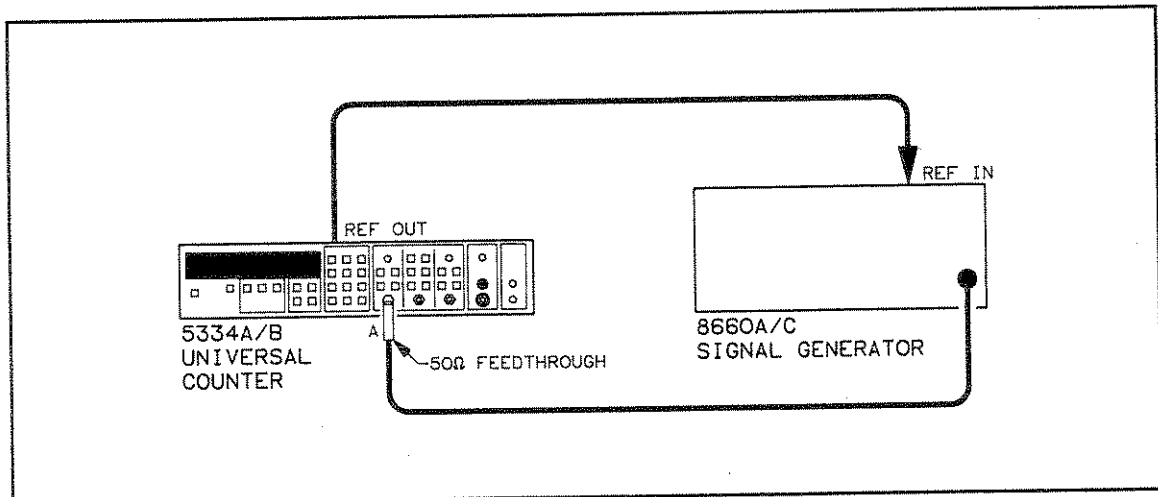

Figure 4-8. Period A Test Setup
3. Connect the signal generator output to the HP 5334A/B Input A using a 50 Ohm feedthrough connector as shown in *Figure 4-8*.